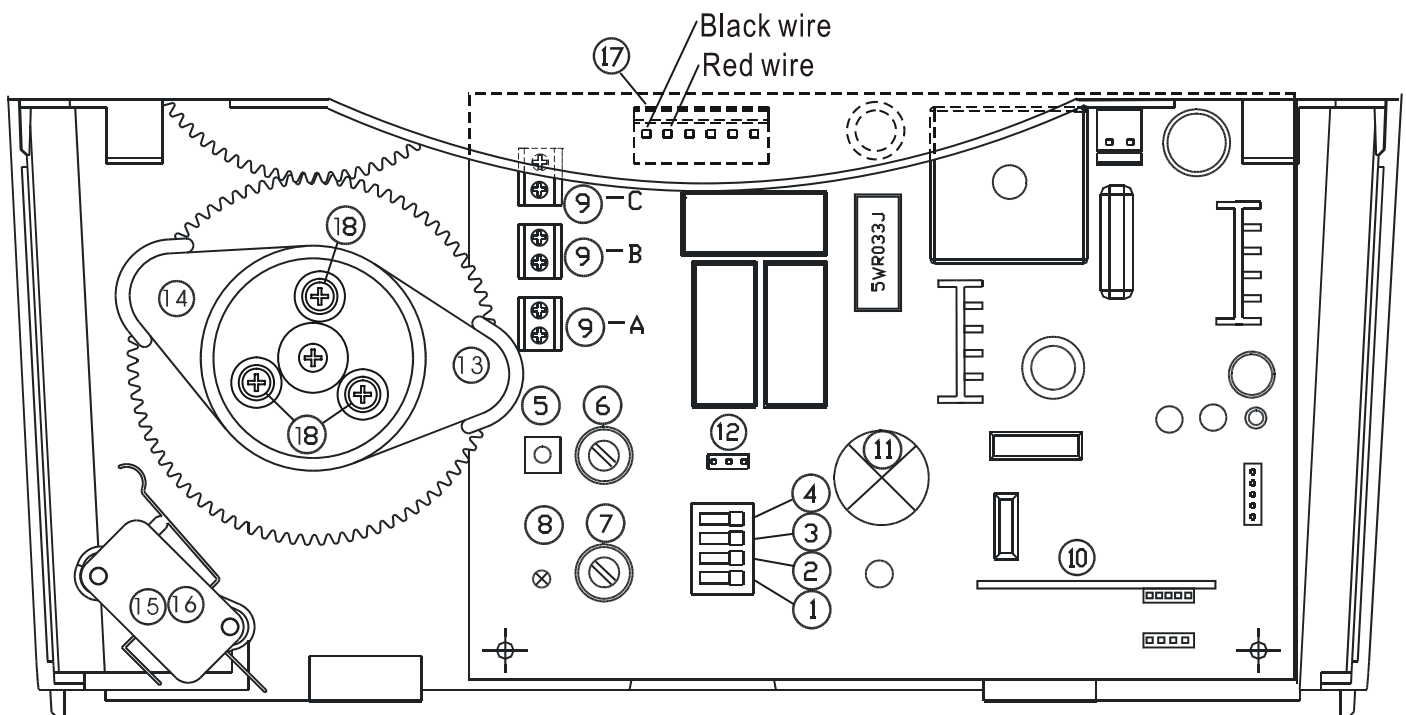
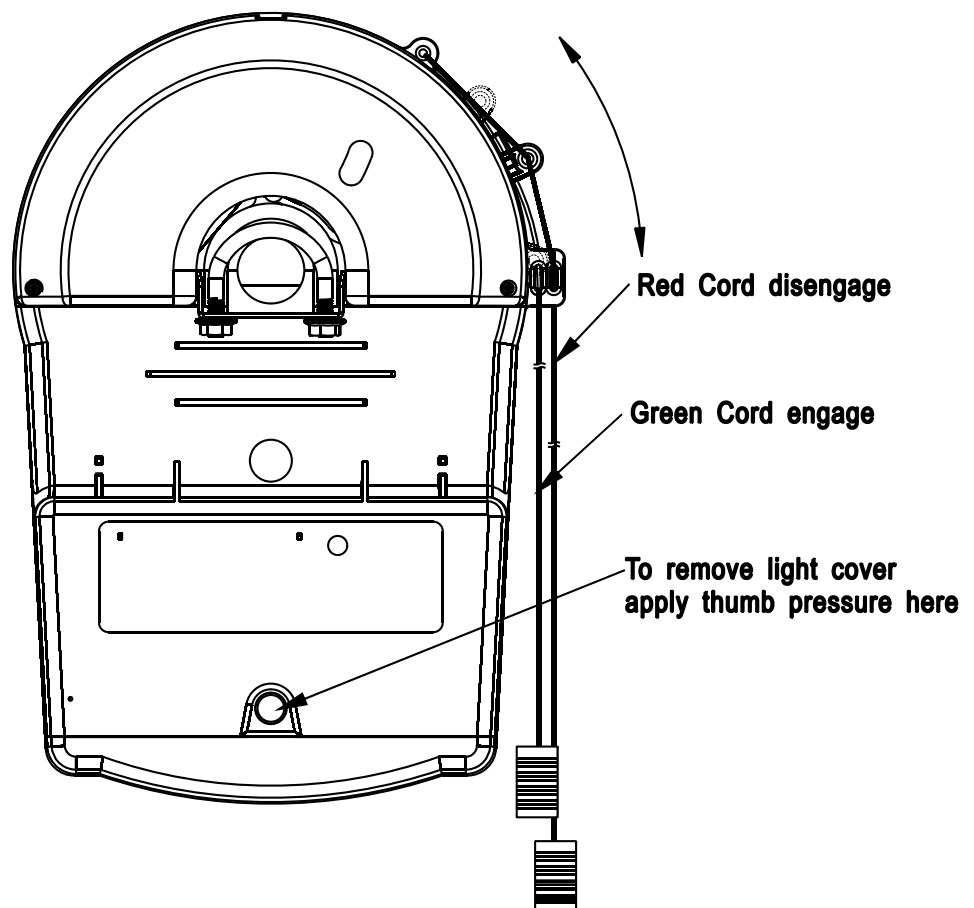

Fig 2
Fig 9
Locate the red and black motor wires. (Fig.2, Item 17, Polarity Terminals) Unplug the connector and reverse it so that the red and black wires are in opposite positions to that depicted in the diagram.
- 1.8 Disengage the AGDO drive by pulling down on the release lever or Red Disengage Cord (Fig.9) - the forked drive wheel should now rotate freely.
- 6.1 Apply light thumb pressure on the button and then pull downwards on the Light Cover (Fig.9)
- 7.2 Gently remove the Light Cover (Fig.9) to expose the Limit Adjust Cams. (Fig.2 Items 13 & 14)
- 7.3 Slightly loosen the 3 locking screws (Fig.2 Item 18) to the extent that the Limit Adjust Cams can be rotated by hand with a firm push.
- 7.4 Rotate the Open Limit Cam (Fig.2 Item 13 – Upper Cam) in the direction of the Open Limit Switch (Fig.2 Item 15 – Upper Switch) until the Open Limit Switch is heard to “click”. Once the Open Limit Switch “clicks” continue to rotate the cam a further 5 degrees or so **towards** the Open Limit Switch.
- 8.2 Gently remove the Light Cover (Fig.9) to expose the Limit Adjust Cams. (Fig.2 Items 13 & 14)
- 8.3 Slightly loosen the 3 locking screws (Fig.2 Item 18) to the extent that the Limit Adjust Cams can be rotated by hand with a firm push.
- 8.4 Rotate the Close Limit Cam (Fig.2 Item 14 – Lower Cam) by hand in the direction of the Close Limit Switch (Fig.2 Item 16 – Lower Switch) until the Close Limit Switch is heard to “click”. Once the Close Limit Switch “clicks” continue to rotate the Cam a further 5 degrees or so **towards** the Close Limit Switch.
- 10.2 Ensure that the AGDO is disengaged by pulling down on the Red Cord (Fig.9)
- 10.3 Gently remove the Light Cover. (Fig.9)
- 10.4 Locate the “Learn” button on the Control Board (Fig.2 Item 5)
- 10.5 Momentarily press the “Learn” button – “Learn” Indicator Lamp will glow solid (Fig.2 Item 8)
- 11.1 Locate the 2 Safety Obstruction Force (SOF) Adjustment Thumb Screws and turn them to the maximum setting in a clockwise direction (Fig.2 Items 6 & 7)
- 22.1 Gently remove the Light Cover (Fig.9)